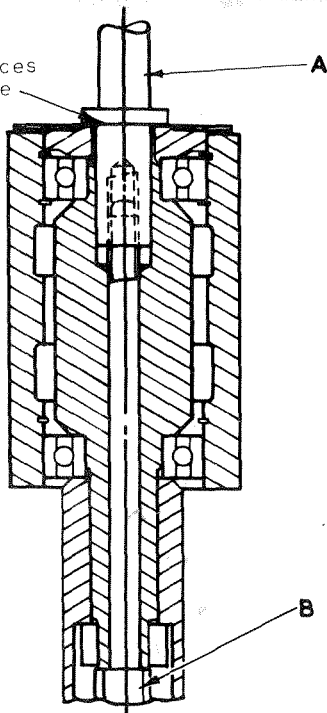

FIG. 7.
1. Insert the work spindle "A" in Fig. 7 into the main spindle through the hole in the table top. Great care should be taken to see that the work spindle seatings and the main spindle seatings are completely free from all burrs, dirt and rust. A thin film of oil should be put on the work spindle seating before inserting. Line the peg in the work spindle with the slot in the main spindle and press spindle onto seating.